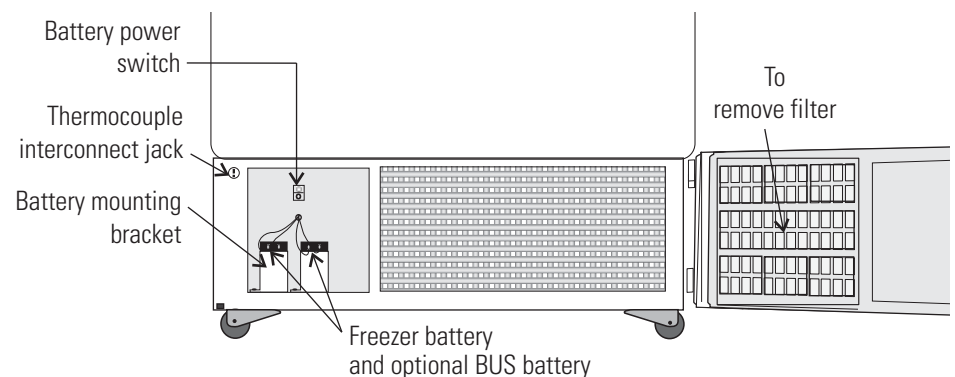

Figure 4-1. Battery Location
2. Locate the grille on the door. See Figure 4-1. Grasp the middle of the filter material behind the grille and gently pull out to remove.
1. Open the front lower door by grasping the bottom left corner. See Figure 4-1.
3. Turn off the battery switch (O). See Figure 4-1.